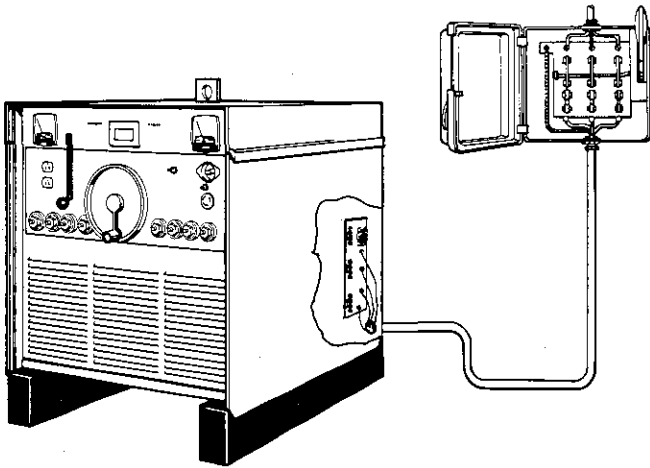

Figure 4 -- Primary Power Connections
- A. This dc arc welding machine is a three phase unit and must be connected to a three phase primary power line. Remove the right hand side panel (view from front panel) from the welding machine. The primary input connection terminal panel is located on the right rear side, near the base of the machine. See Figure 4 for connections.
- C. The primary cables connect to terminals L1, L2 and L3. A fourth wire cable ground connection, must be fastened to the terminal labeled GRD. See Figure 4. The other end of this cable should be attached to a suitable ground such as a water pipe, ground rod, etc. Use whatever grounding means is acceptable to the local electrical inspection authorities.